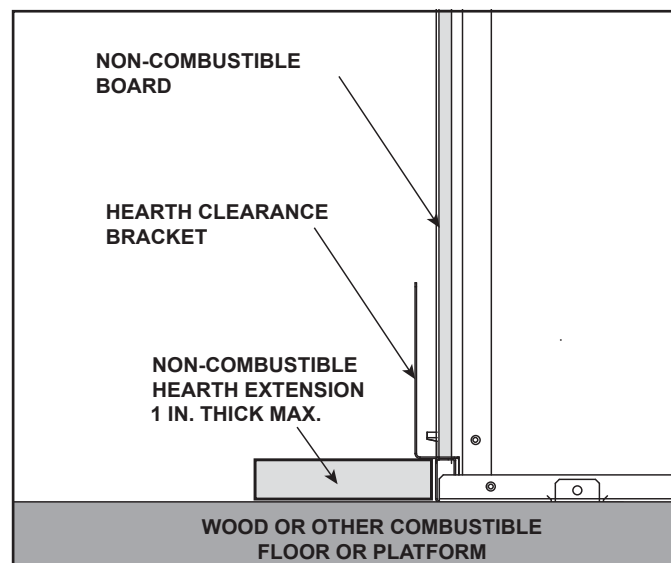
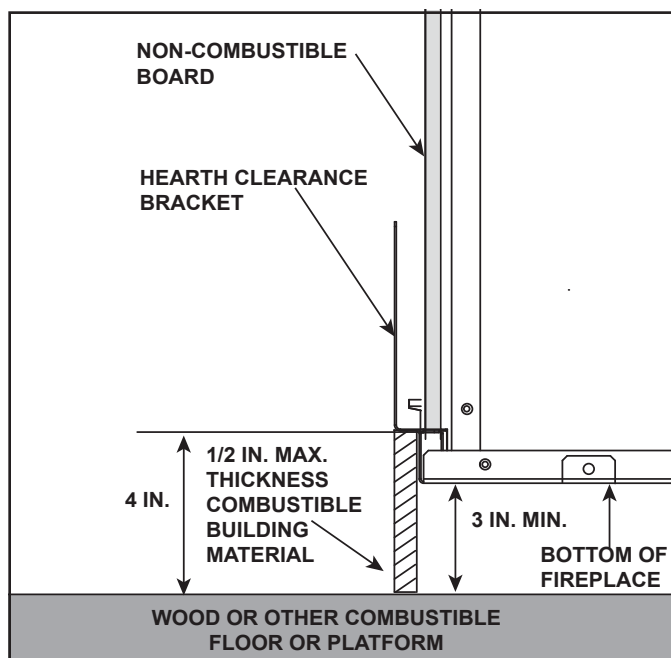

Figure 5.11 Appliance Installed on Combustible Surface
Figure 5.12 Appliance Raised a Minimum of 3 Inches Above
- Hearth extension must be non-combustible and serves to protect combustible floors in front of appliance. See Figure 5.11.
- The base of the fireplace may sit on a combustible surface. See Figure 5.11. The area in front of the appliance must be protected by a non-combustible hearth extension, unless the appliance is raised a minimum of three inches above the combustible floor or hearth. See Figure 5.11 and Figure 5.12.
If a hearth greater than one inch in thickness is desired, the appliance must be raised by the equivalent height to ensure that the hearth does not interfere with the installation of the glass assembly required for fireplace operation. See Figure 5.11.